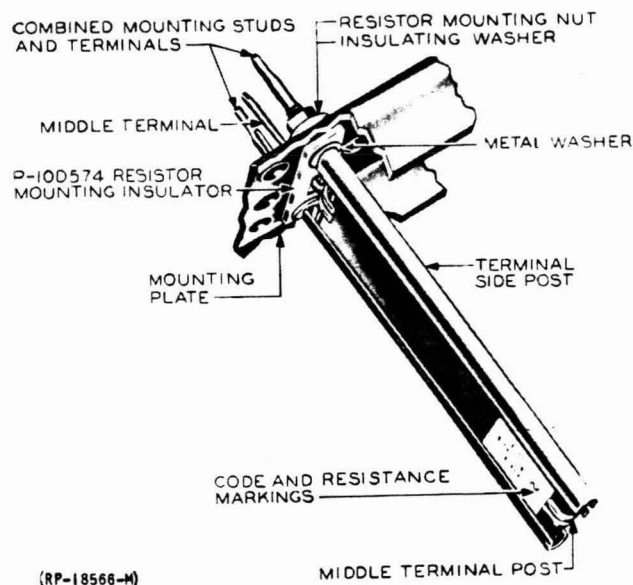

FIG. 3 MOUNTING OF 18 AND 19 TYPE DOUBLE STUD RESISTORS ON MOUNTING PLATE NOT EQUIPPED WITH INSULATOR BUSHINGS (PARS. 3.1, 3.121)
(BSP 032-140-811 FIG. 3)
3.121 If double stud 18 and 19 type resistors are supplied for a mounting plate not equipped with insulator bushings, it is necessary to use the P-10D574 resistor mounting insulator as shown in Figure 3.